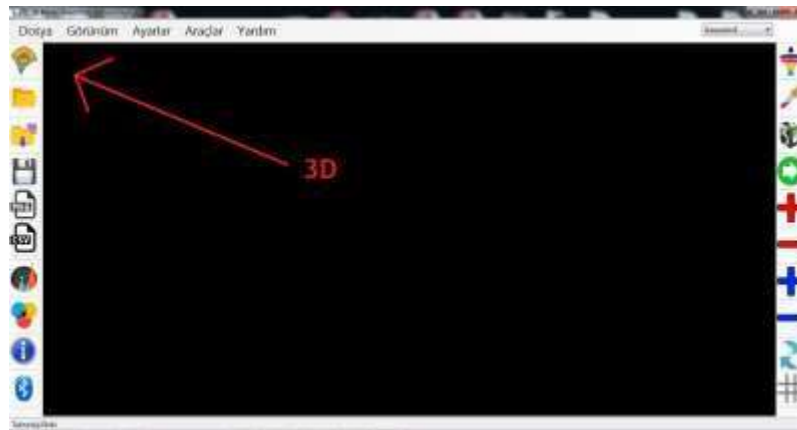

Figure 12
4. Icon to seen in Figure 12 with the help of 3D viewer program to be made to the display settings window should open.